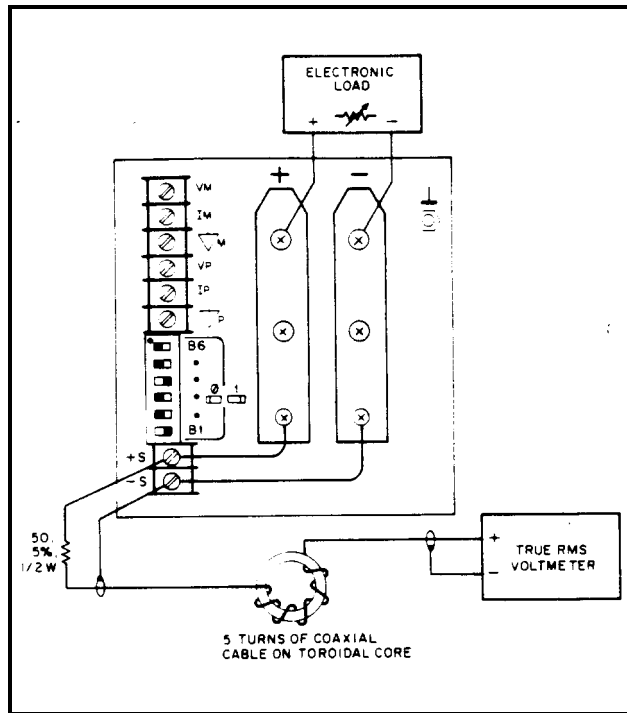

Figure 2-6. RMS Measurement Test Setup, CV PARD Test
RMS Measurement Procedure. Figure 2-6 shows the interconnections of equipment to measure PARD in V_{rms}. To ensure that there is no voltage difference between the voltmeter's case and the unit's case, connect both to the same ac power outlet or check that the two ac power outlets used have the same earth-ground connection.
- a. Connect the test equipment as shown in Figure 2-6. Operate the load in constant resistance mode (Amps/Volt) and set resistance to maximum.